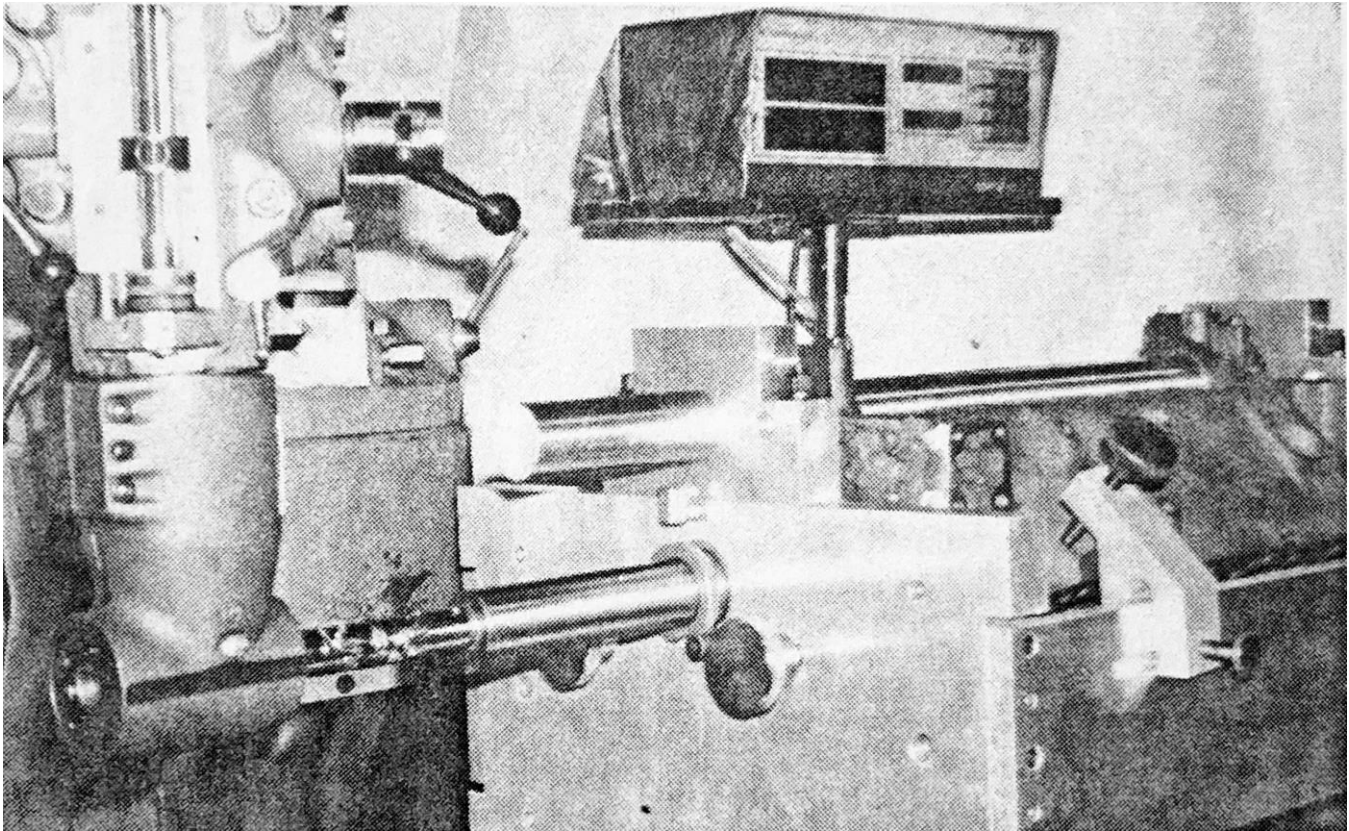

Figure 8
18. Install the appropriate collet in the spindle of the "Right Angle Drive". Insert the "Universal Joint Drive Tip" into the collet and tighten. (see Fig. 8)